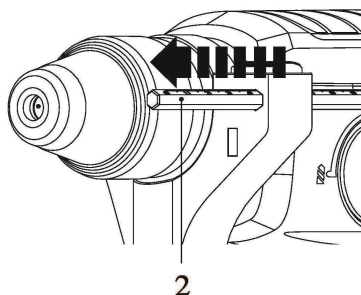

Fig. 5
- > Insert the depth stop (2) through the hole as indicated. (Fig. 5).
- > Align the tip of the depth stop (2) with the drill tip. Now pull the depth stop (2) back by the required drilling depth.